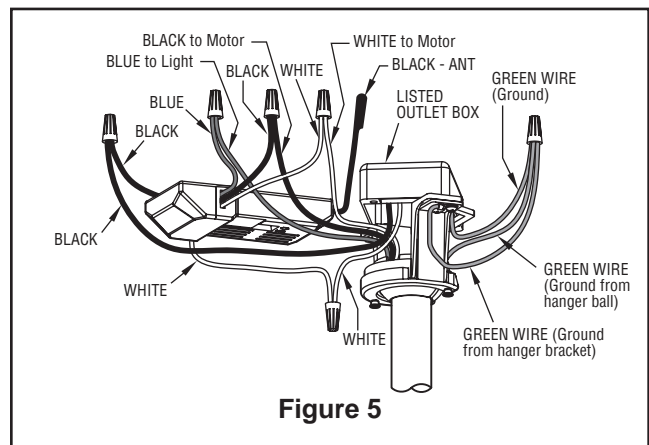

Figure 5
5. Reinstall the hanger ball on the downrod as follows. Route the three 80-inch wires through the hanger ball. Position the pin through the two holes in the downrod and align the hanger ball so the pin is captured in the groove in the top of the hanger ball. Pull the hanger ball up tight against the pin. Securely tighten the set screw in the hanger ball. A loose set screw could create fan wobble (Figure 5).
4. Connect green wires from hanger bracket and hanger ball to bare (ground) wire using wire connector supplied. Connect black wire from receiver unit marked "AC IN L" to black supply wire using wire connector supplied. Connect white wire from receiver unit marked "AC IN N" to white supply wire using wire connector supplied. Connect white wire from receiver unit marked "TO MOTOR N" to white wire from fan using wire connector supplied with receiver. Connect black wire from receiver unit marked "TO MOTOR L" to black wire from fan using wire connector supplied. Lastly, connect blue wire from receiver to the blue fan light wire using wire connector supplied. Position all connected wires and receiver antenna to allow installation of ceiling canopy (Figure 5).
- 5. Remove one of the three screws in the housing light kit assembly. Slightly loosen the remaining two screws. Assemble the socket plate to the housing light kit assembly using the two key slots. Replace the third screw and securely tighten all three screws (Figure 5).